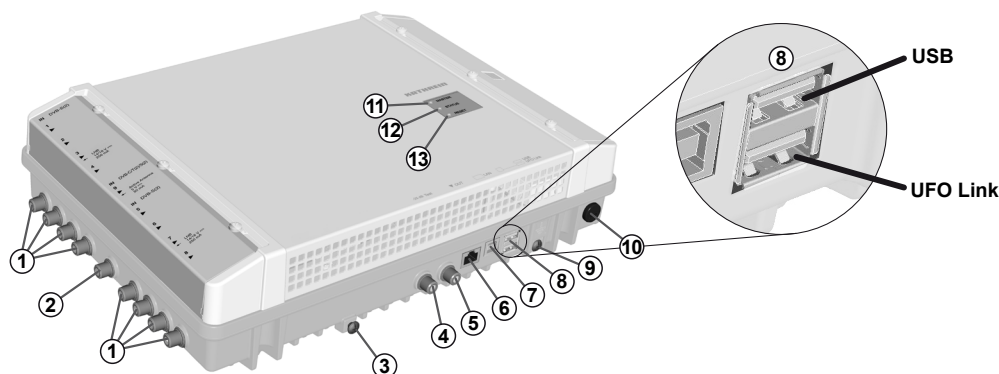

Fig. 1: Device elements
1. Connect a potential equalisation wire (Cu,  $\geq 4 \text{ mm}^2$ ) to the earthing screw; see ④ in Fig. 1, P. 3.
- The plugs must be inserted into the master and slave at the appropriate UFO link interface ports (③ in Fig. 1).
4. Connect the RF signal cables for the antenna, cable network and output to the head-ends; see ①, ② and ⑤ in Fig. 1, P. 3.